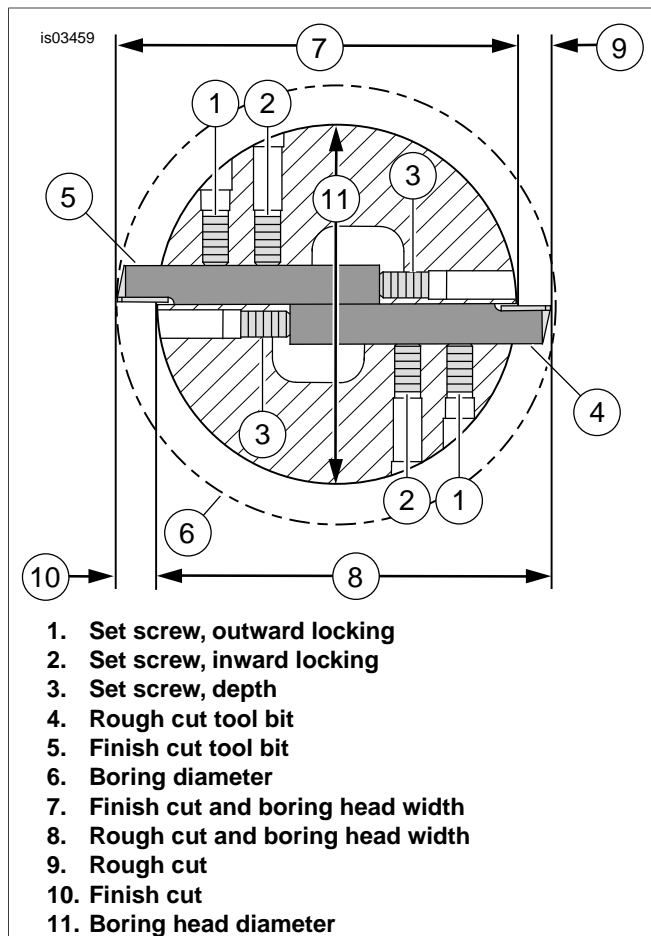

Figure 4. Boring Head - View of Bottom Side
1. See Figure 4. Install the cutting bits into the bore head and set boring diameter as follows:
- d. See Figure 4. Set the rough cut (4) and finish cut (5) tool bit depths using the set screws (3). Use an appropriate measuring tool to ensure accurate measurements.
- e. While ensuring that the tool bits are pressed tight to the depth set screws (3), tighten the locking set screws (1), then locking set screws (2). Tighten locking set screws to 90 **in-lbs** (10 Nm).
1. See Figure 4. Install the finish cut tool bit into the bore head and set boring diameter as follows (Do **NOT** install the rough cut tool bit when cutting the O-ring counterbore.):